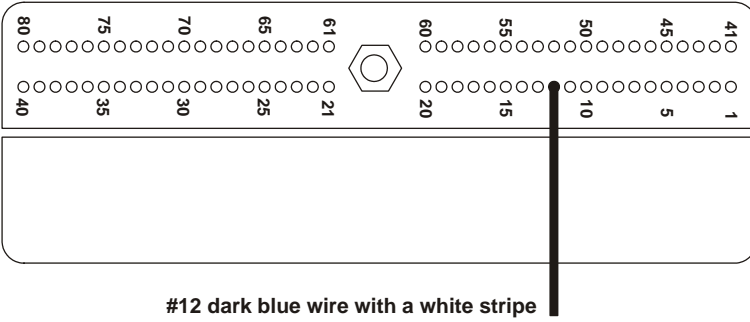

Figure 4
- Solder and seal the white tachometer wire to the dark blue with white stripe wire at pin 12 on the connector (Figure 4).